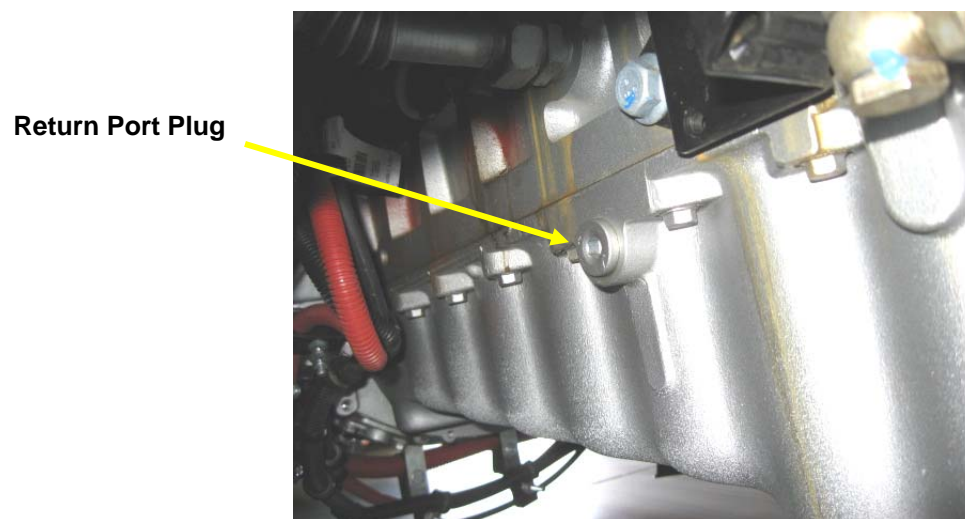

Figure 8 – Plug for Return Line
1. Remove the plug shown in Figure 8 and replace it with the adapter supplied with the kit.